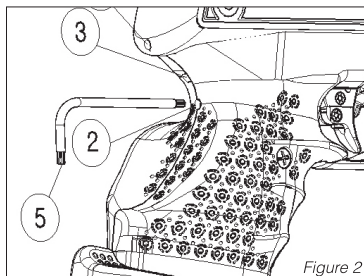

Figure 2
- 15 Figure 2 setting of retaining moving length is made by No. 5 (T8) Torx key through hole No. 2 and by turning the screw clockwise retaining movement is reduced and by turning it anticlockwise trigger retaining movement is extended.